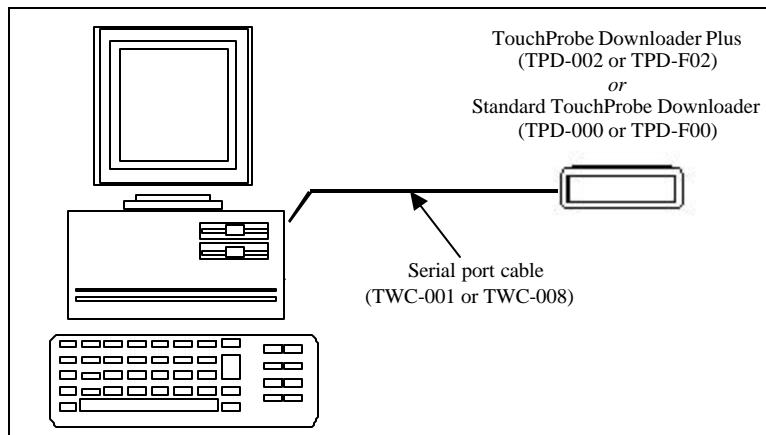

Figure G-1 Downloader Connected to Computer
- **Videx serial port cable (TWC-001 or TWC-008)** – This is the cable that connects the TouchProbe Downloader Plus directly to a computer so that the TouchProbe can be configured with the **TouchProbe Configuration Utility**. See Figure G-1 on page 131.